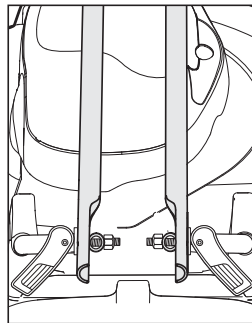

Fig. 2
- 3 Push the locking bolt through the holes of both handles (making sure the washer is on the lever side). (see Fig. 2).